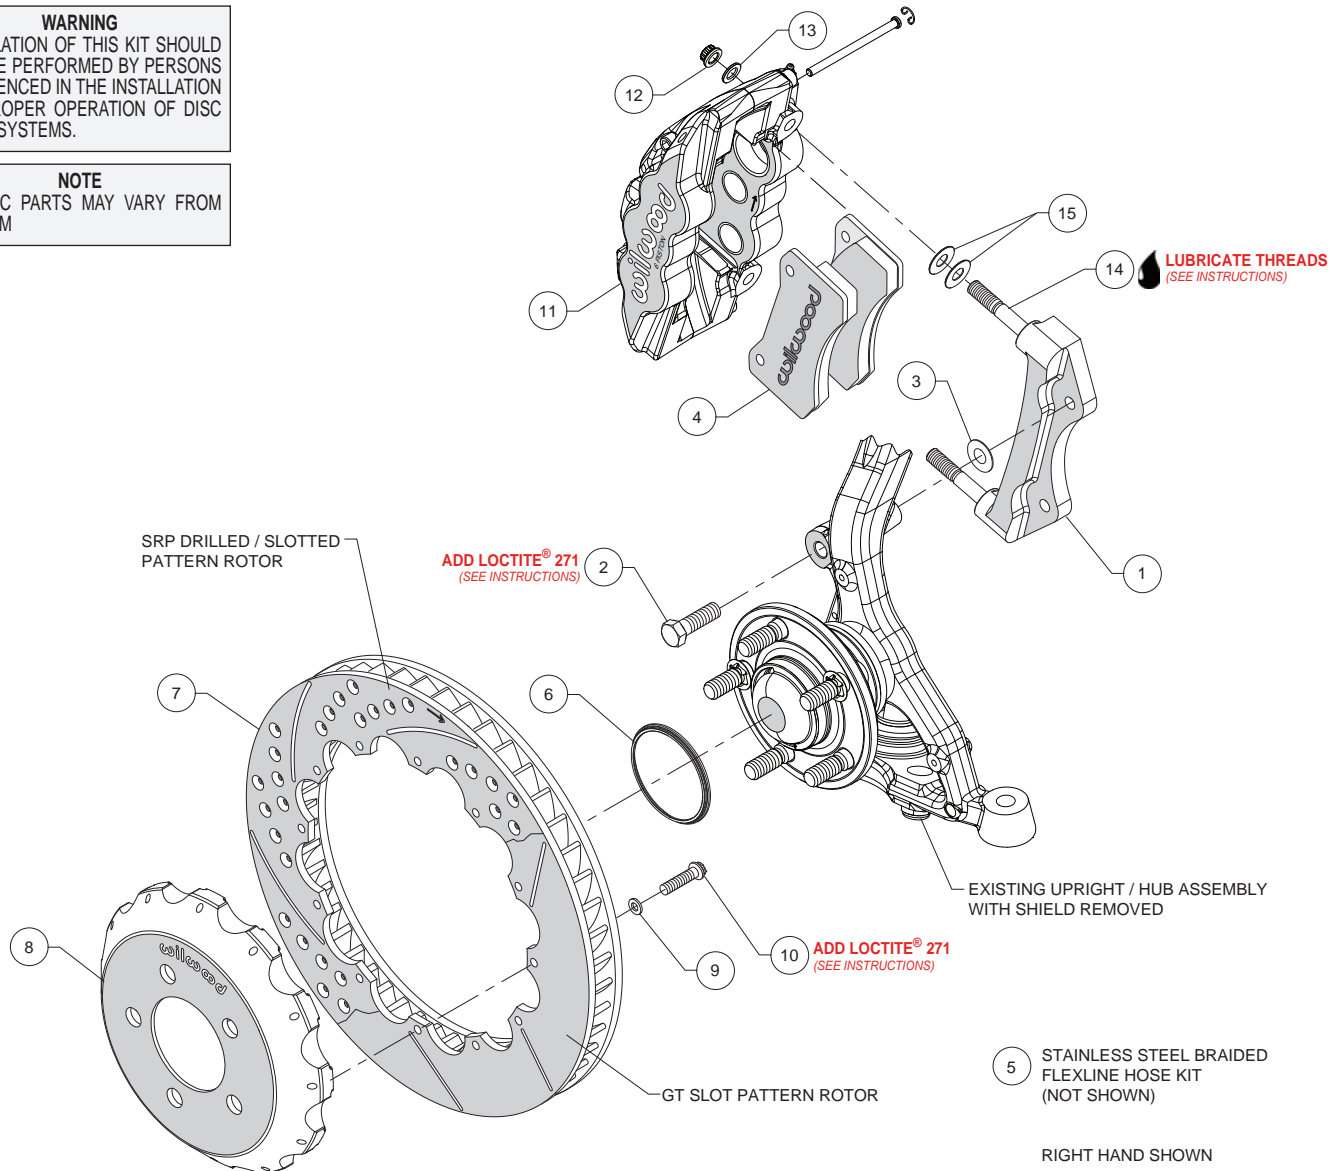
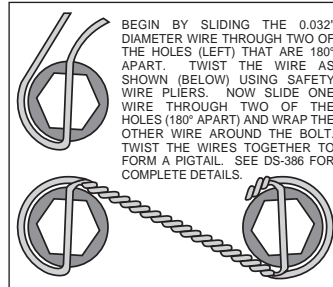

Figure 1. Typical Installation Configuration
Figure 3. Safety Wire Diagram
Assembly Instructions (numbers in parenthesis refer to the parts list and Figure 1 on the preceding pages):
- The caliper mount bracket (1) should initially be installed with clean, dry threads on the mounting bolts. Orient the bracket as shown in Figure 1 and Photo 1 and install using mount bolts (2). Initially place one .029" thick shim (3) on each bolt between the bracket and upright, Figure 1. Temporarily tighten the mounting bolts. **NOTE:** *The bracket must fit squarely against the mount bosses on the upright.* Inspect for interference from casting irregularities, machining ridges, burrs, etc. Later, after the caliper alignment has been checked, the mount bolts will be secured using red *Loctite*® 271.
- Orient the rotor (7) and the hat (8) as shown in Figure 1 and Photo 2. Attach rotor to hat using bolts (10) and washers (9). Using an alternating sequence, apply red *Loctite*® 271 to the threads and torque bolts to 155 in-lb. For an added measure of security, the bolts may be safety wired using standard 0.032 inch diameter stainless steel safety wire as shown in Figure 3. Please refer to Wilwood's data sheet DS-386 (available at www.wilwood.com/Pdf/DataSheets/ds386.pdf) for complete safety wire installation instructions.
- NOTE:** *This kit contains distinct right and left hand calipers that must be mounted in a specific direction, as described below.* Lubricate the caliper mounting studs (14) with lightweight oil. Initially place two .030" thick shims (15) on each stud between the caliper and the bracket, as shown in Figure 1 and Photo 4. Mount the caliper (11) onto the bracket (1) using lock nuts (12) and washers (13), Figure 1. Temporarily tighten the lock nuts. Ensure that the caliper is mounted so the largest pistons are at the rotor exit end of the caliper, in relation to the direction of the rotor. View the rotor (7) through the top opening of the caliper. The rotor should be centered in the caliper, Photo 5. If not, adjust by adding or subtracting shims (3) between the bracket and the upright. Always use the same amount of shims on each of the two mounting bolts. Once the caliper alignment is correct, remove the bracket mounting bolts one at a time, apply red *Loctite*® 271 to the threads, and torque to 77 ft-lb.
- Remove the two pad retaining pins from the caliper (11) by carefully popping out the pin retaining clips and sliding out the pins. Insert the brake pads (4) into the caliper from the bottom, Figure 1 and Photo 6. With the friction material facing the rotor,